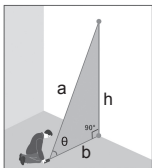

Figure 1
- 1 Calculate height by measuring angle  (as shown in Figure 1)
(Figure 1)
Step 1: Measure the area once (Figure 1);